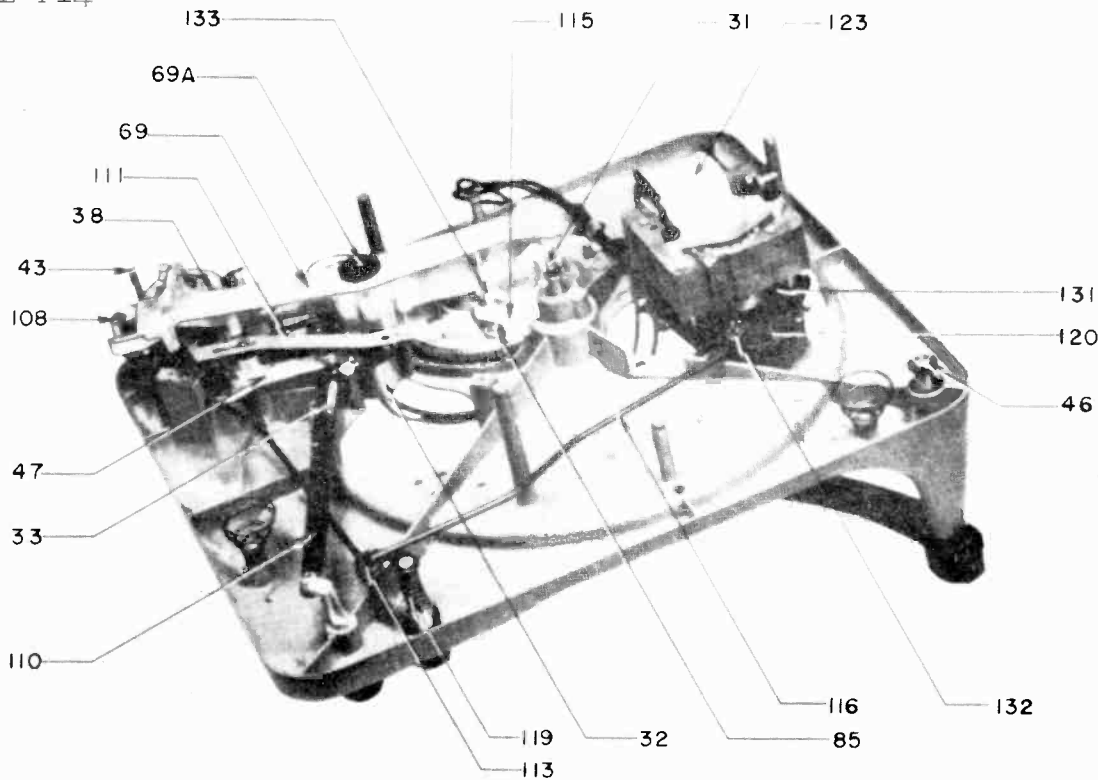
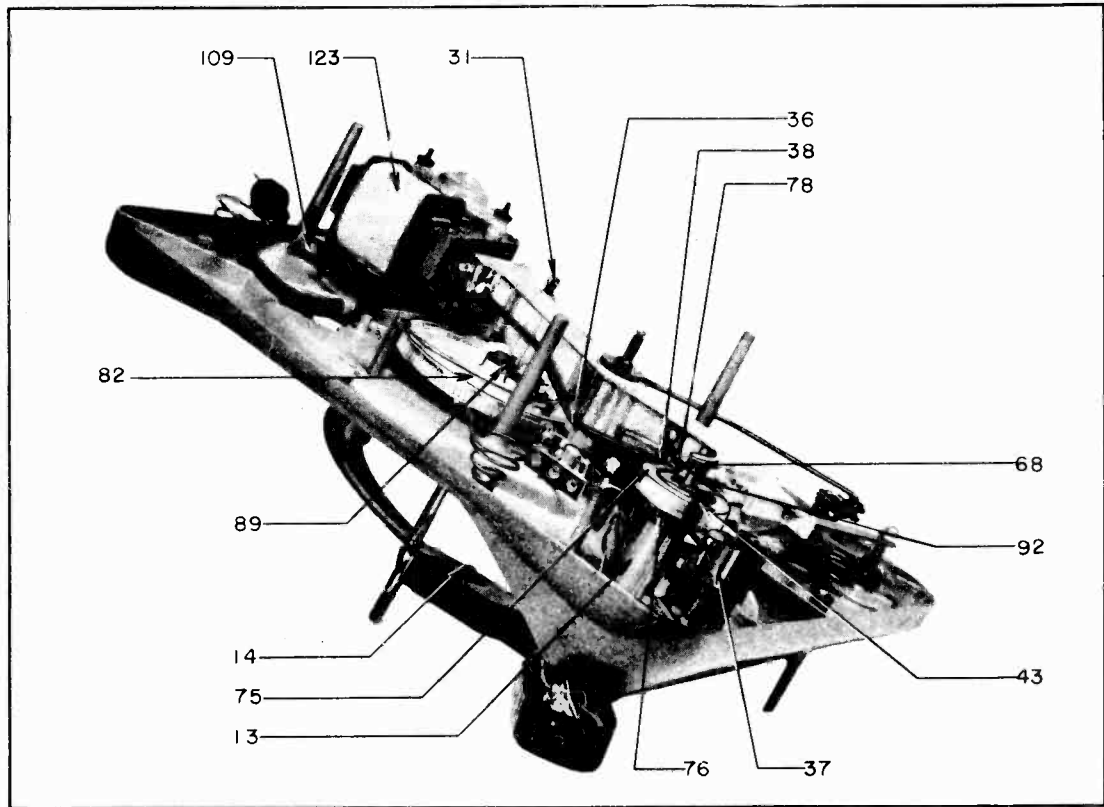
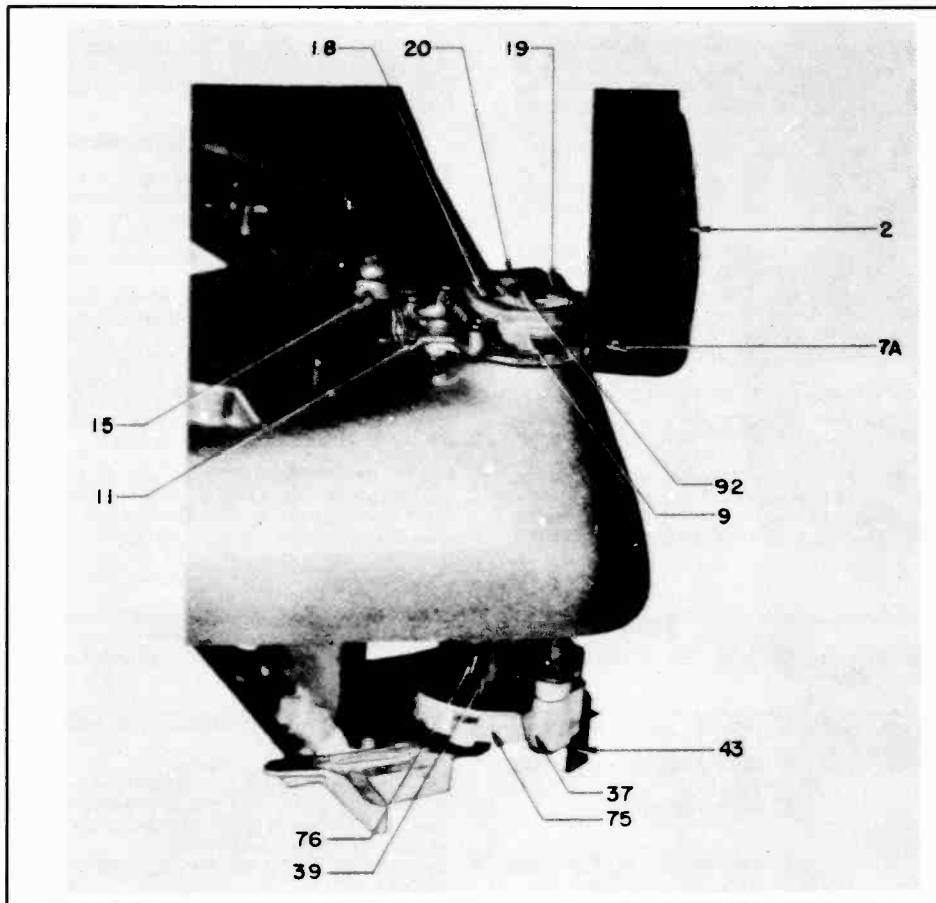

Fig. 2. Bottom View
Fig. 3. Bottom View
Fig. 4. Pickup Arm Mounting and Adjustment
1. Hinge bearing inside hinge assembly (13, Fig. 3).
2. Locator housing (75, Fig. 3) and set-down locator plate (43, Fig. 2).
3. Cam faces on lift arm (69, Fig. 2), lift arm bearing and lift arm cut-off rod bearings.
4. Between lever spring (38, Fig. 3) and cut-off rod.
5. Heart-shaped cam track on cam and cam bearing (133, Fig. 2).
6. Spindle between roller plunger and roller spring housing and between the roller spring housing and the spindle body (31, Fig. 2).
1. Pickup arm locator assembly bearing and ball bearing pickup arm post (75, Fig. 3).
2. Control lever bearing (47, Fig. 2).
As the main cam gear is turned by the turntable gear, the lift arm roller (133, Fig. 2) moves around the heart-shaped cam at the center of the cam gear. The outside end of the lift
arm raises or lowers the pickup arm by one cam action and swings the pickup arm in or out by another cam action. The pickup arm is first lifted by the cam pushing on the pickup arm lift rod (92, Fig. 3), then the pickup arm is swung out away from the records by the end of the lift arm which hits the stud of the ratchet arm (75, Fig. 4) assembly and rotates the pickup arm. After the pickup arm has swung out of the way, the inside end of the lift arm pushes up roller plunger (31, Fig. 3) which actuates the record pusher and causes it to move the bottom record into position to fall to the turntable.
Indexing is accomplished by the locator plate (43, Fig. 2) and the ratchet arm (75, Fig. 3). During the change cycle, the ratchet arm (75, Fig. 3) is pressed up against the locator plate (43, Fig. 3). The notches in these two parts should come together. During the last half of the cycle, the locator spring (38, Fig. 3) rotates the locator (43, Fig. 3) and the ratchet arm against the seven-inch index cam (37, Fig. 3).
During each cycle the adjusting ring (9, Fig. 4), rotates out and allows cam (11) to return to 10-inch index position if it had previously been tripped by a 12-inch record. Automatic shut-off after last record is accomplished by the cut-off rod (36, Fig. 3). When the record support arm falls onto the shelf of the spindle, the record pusher (28, Fig. 1) is stopped by the record support arm (1, Fig. 1). This limits the vertical travel of the Record Pusher Shaft Assembly (31, Fig. 3) so that the inside end of the
cut-off rod (36, Fig. 3) hits the collar on the shaft assembly, causing cut-off rod (36) to rotate so that the outside end of rod (36) hits the control lever (47, Fig. 2) and rotates the lever to the "OFF" position.
**PICKUP ARM INDEXING**—Screws (18, Fig. 4) and (19, Fig. 4) are used to adjust the point at which the stylus lands on the record. If the stylus lands too far out on the edge of the record, loosen screw (18) slightly and tighten screw (19).
If it is necessary to make adjustment of screw (20, Fig. 4), loosen screw (20) and match locator plate (43, Fig. 2) and ratchet arm (75, Fig. 3) and with locator plate rotated against index stop in the base plate, rotate pickup arm to index approximately for a 10-inch record. Make a fine adjustment of indexing with screws (18, Fig. 4) and (19, Fig. 4), as above. When the correct set-down is obtained for the 10-in. position, the 12- and 7-inch needle set-down will be also correct.
**PICKUP ARM HEIGHT**—The pickup arm height is adjusted by the screw (92, Fig. 4) located on top of the pickup arm lift rod. Turn the screw out or in until the underneath side of the pickup arm clears the rest by  $\frac{1}{8}$  in. or  $\frac{3}{16}$  in.